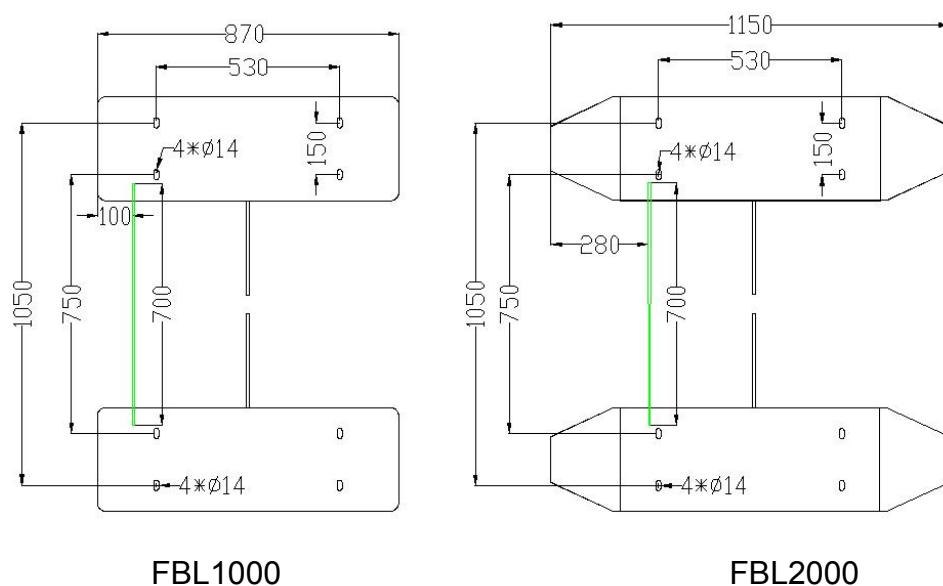

Figure 2-3
For the outlet of concealed cables, see the installation hole positions of the flap barrier in Figure 2-3. The device uses 6 x 1.5 mm² cables with the voltage input range of AC 100-240 V as the power supply cable (including ground cables).
- ① Power on the master machine and slave machine, adjust the wing arms. Ensure that the wing arms are in the same line and the distance between the wings is 60 mm. Make the wings to be in the OFF state.
- ② Make sure the infrared correlation tubes on both sides align with each other.
- ③ Make marks: Mark the screw hole centers of the base and chassis base edges on the ground.
- ④ Drill holes: Move away the chassis and get ready a hammer drill and a 14 mm drill bit. Drill a hole with the depth of 80 mm in the screw hole center marks. Alternatively, drill holes according to installation hole positions. For devices, see Figure 2-3 for installation hole positions. The unit of data in the figures is mm.
- ⑤ Apply screw glue to the outer surface and threads of the expansion screws, insert expansion screws, and fix the master machine and slave machine in the marked positions. Use a level checker (or spirit level) to check whether the installation ground foundation is in correct level. If not, use a pad for adjustment.